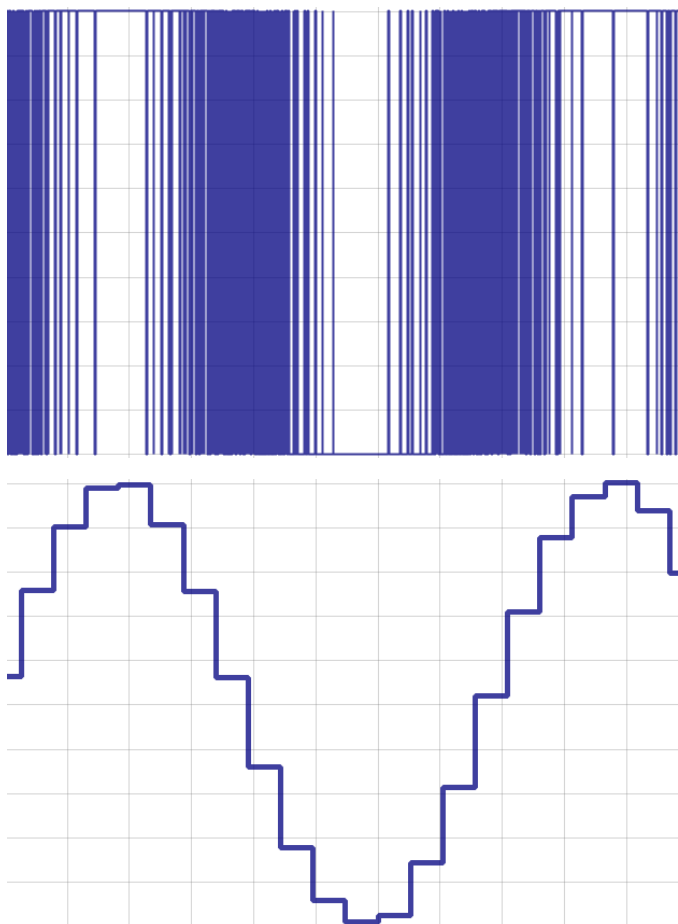

Figure 2. PDM bitstream (upper) and audio (lower).
Figure 2 shows a PDM data bitstream time synchronized with the decimated full-scale sine wave audio signal recovered from it. The pulse density modulation is visible; digital ones (1) correspond to full scale audio positive peaks and digital zeros (0) correspond to full scale negative audio peaks.